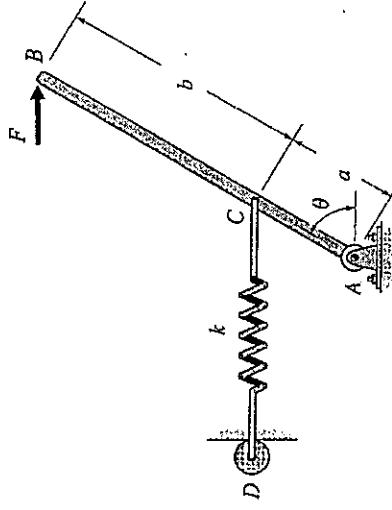

Figure 1
- This paper contains **FOUR** (4) questions and comprises **SEVEN** (7) pages.
- 1(a) A spring loaded lever mechanism has a horizontal force, F , applied at B, and is in equilibrium with the spring attached as shown in Figure 1. The rigid bar, ACB, has an angle, θ , relative to the horizontal plane at A. The spring CD, is connected to the rigid bar at C from a roller support at D. The linear spring has a stiffness of k . When the load, F , is removed, the spring will return the mechanism back to its initial position on the vertical plane where $\theta = 90^\circ$.